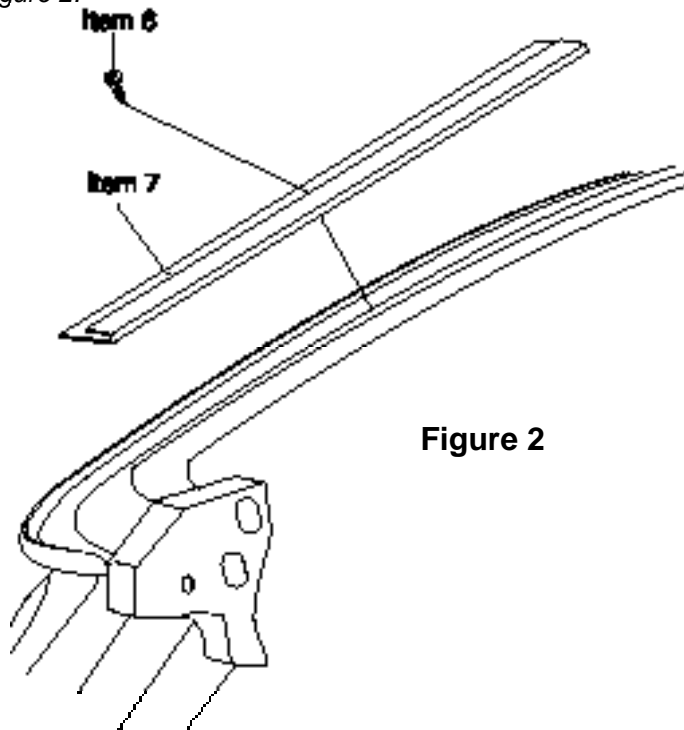

Figure 2
Step 3. Windshield Aluminum. Place windshield aluminum (Item 7) on front of windshield frame centered from side to side. The bottom of windshield aluminum should be to the bottom of channel in windshield frame. Mark and drill 1/8" holes using windshield aluminum as a template starting at the center. Install one #10 x 1/2" sheet metal screw (Item 6) at a time starting at the center and working your way to each side of windshield frame. See figure 2.